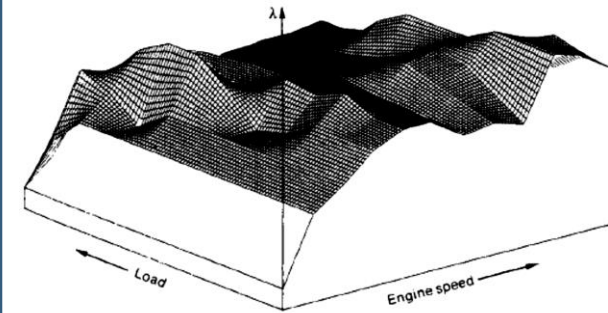

Figure 9.22 Cartographic map used to represent how the information on an engine's fuelling requirements are stored
- A three-dimensional cartographic map, shown in Figure 9.22, is used to represent how the information on an engine's fuelling requirements is stored.